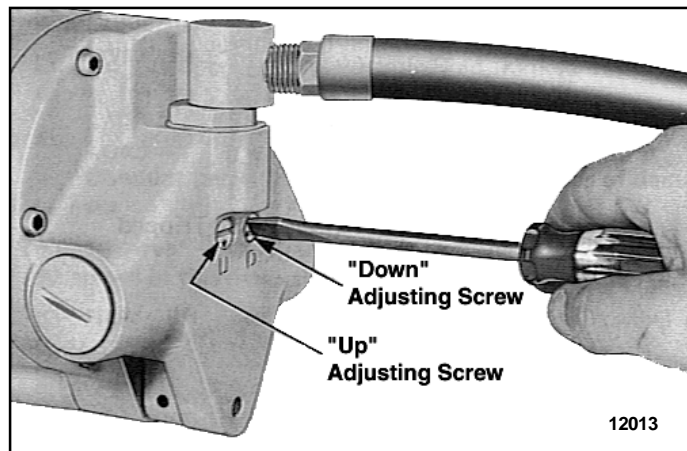

Figure 2-4. Hoisting and Lowering Speed Adjustment.
b. To adjust the hoisting or lowering speed, turn appropriate regulator screw (Figure 2-4) in either direction a little at a time while operating hoist under load.